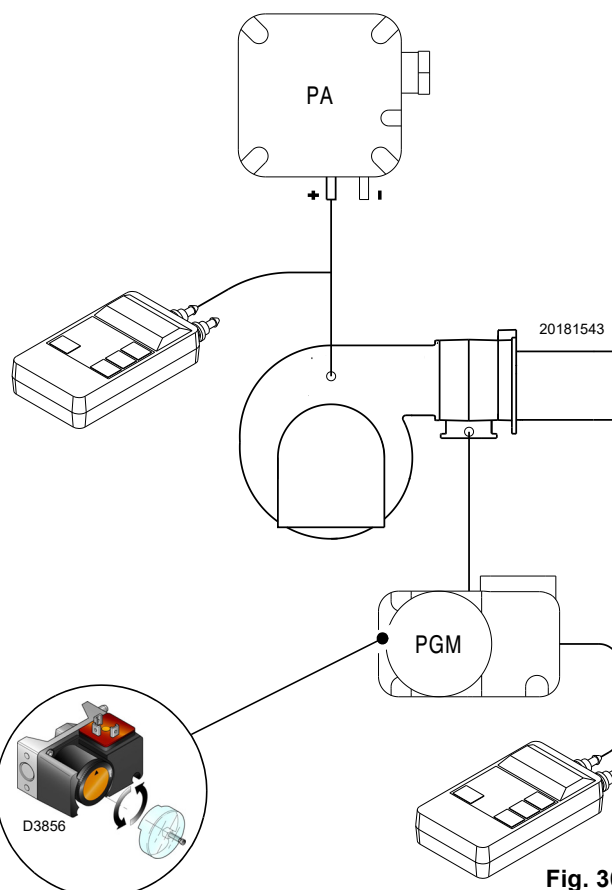

Fig. 36
- Adjust the maximum gas pressure switch (Fig. 36, a pag. 33) to the end of the scale.
Adjust the maximum gas pressure switch (Fig. 36) after making all other burner adjustments with the maximum gas pressure switch set to the end of the scale.